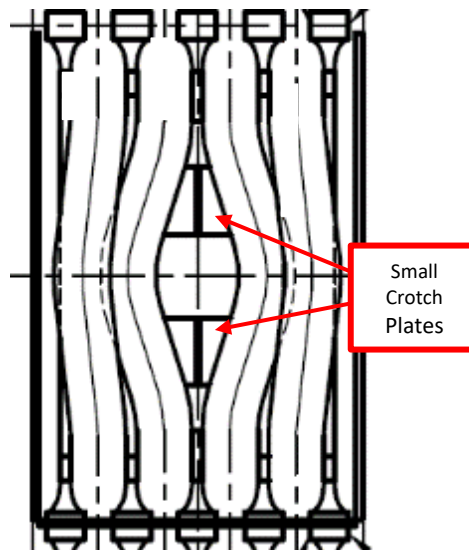

Figure 4. (Six Tube Panel – Four Bent Tubes - IR Opening)
- b. B&W recommends initiating a tube opening replacement program with the IR openings. Replace the two-tube bent openings with four-tube bent openings. The four-tube bent openings (Figure 4) result in much smaller crotch plates, thus an improved chance for survival. Plan to replace a level of IRs each outage for the next five years. Weld overlay could be included to limit sootblower damage repairs.